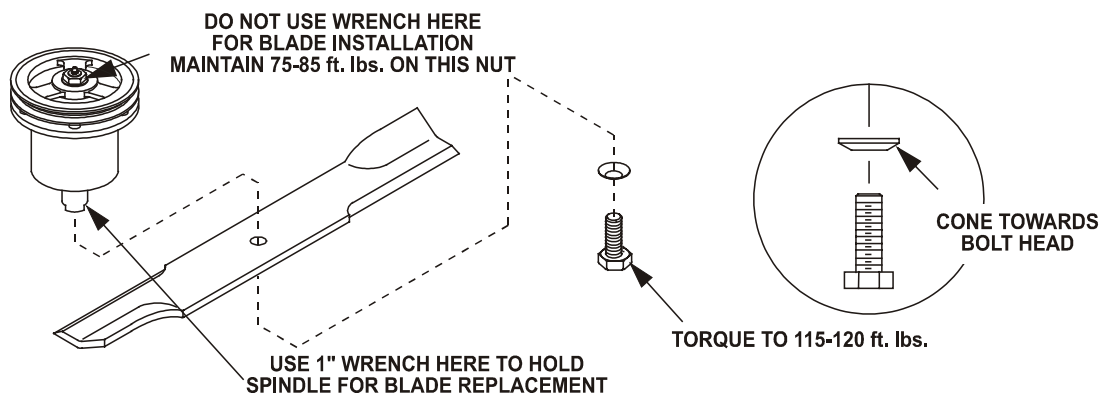

FIGURE 11
- g) Re-install the blades (if they were removed) and torque blade bolts to 115-120 ft. lbs. Be sure the spring disc washer cone is installed toward the bolt head (See Figure 11).